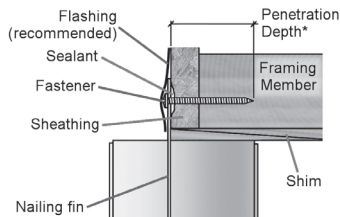

Figure 3 – General Installation
- (Required)** Apply a generous (at least 3/8" bead), continuous bead of exterior-grade sealant to ensure an adequate seal between the back of the nailing fin and the exterior surface of the rough opening (reference **Figure 3**). The bead should run along the approximate location of the nailfin holes (if the nailing fin has two rows of holes, apply sealant in line with the inner row). **! If using pan flashing, do not seal the lower sill nailing fin so as to provide adequate drainage.**